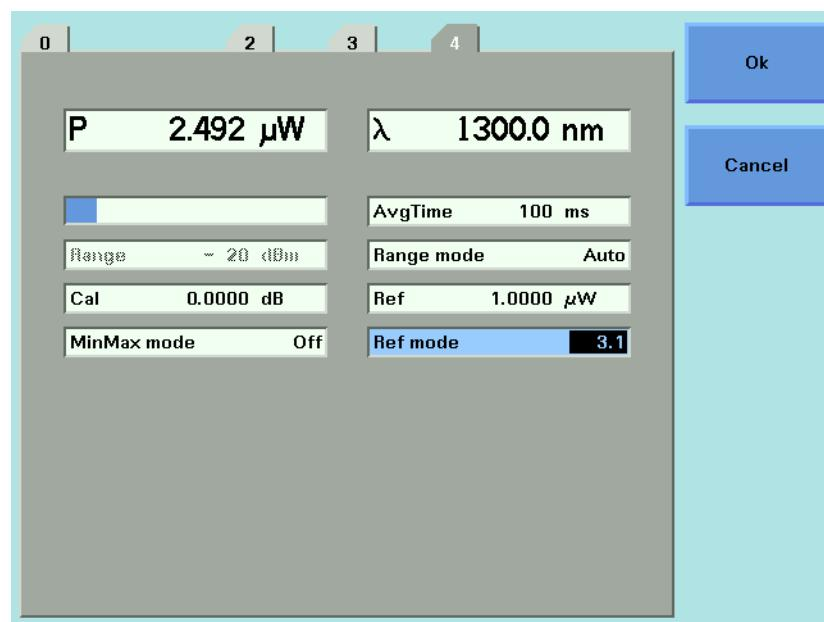

Figure 43 Referencing Another Channel
- 3 Move to the channel number you want to reference, using the cursor key, and press *Enter*. For example, in Figure 43, you could choose 3.1 (for channel 3.1). Refer to “*Slot and Channel Numbers*” on page 41 for information on channel numbers.